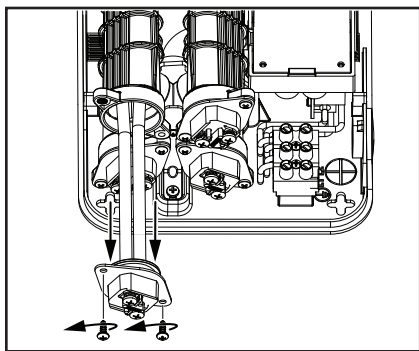

Figure 13 - Removing the element(s).
- With the element wires out of the way, use a Phillips screwdriver to remove the two mounting screws securing the element in the chamber. Place the tip of a flat head screwdriver between the element mounting bracket and chamber housing to gently pry the element away from the chamber. Pull the element down and out of the chamber. Use a towel to clean up any water that might spill from the chamber. See Figure 13.